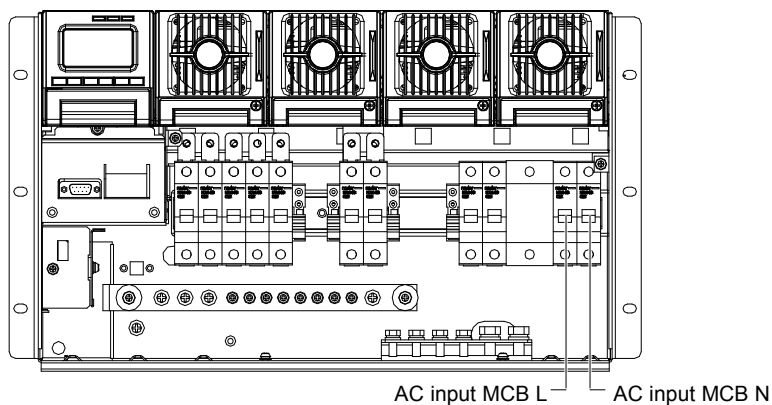
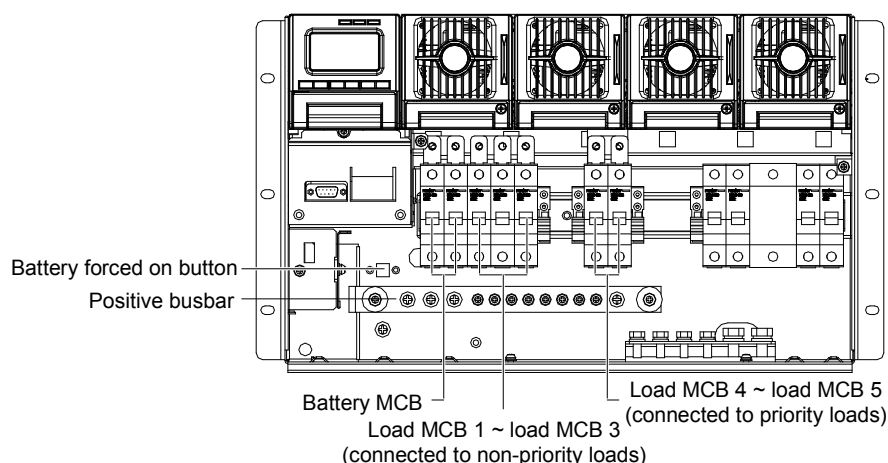

Figure 2-12 Position of the AC input terminals
Figure 2-13 Load cable connection terminals
2. Connect the live line and neutral line of the AC input phase cables respectively to the lower terminals of the AC input MCB L and AC input MCB N, as shown in Figure 2-12.
The outdoor cabinet can sustain five routes of load that are controlled by five load MCBs, as shown in Figure 2-13. The load MCBs in the power distribution unit are defined as load MCB 1 to load MCB 5 from left to right.
To test the system upon mains failure, you can push the battery forced on button (see Figure 2-13) to power the external connection equipments through batteries. Meanwhile, the monitoring module will work normally and provide BLVD function.
- 2) Connect the negative load cables to the underpart of the load MCB. Connect the positive load cables to the positive busbar, as shown in Figure 2-13.
1. Switch off the AC input MCB and battery MCB. The MCB positions are in Figure 2-12 and Figure 2-13.